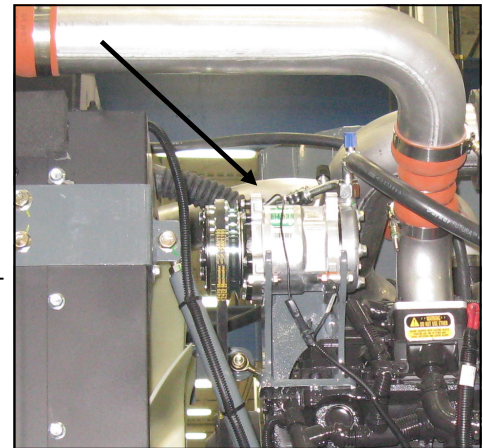

FIG 117-2
**TYPE**– The cab on your sprayer is equipped with a R-134a air conditioning system (fig. 117-2).